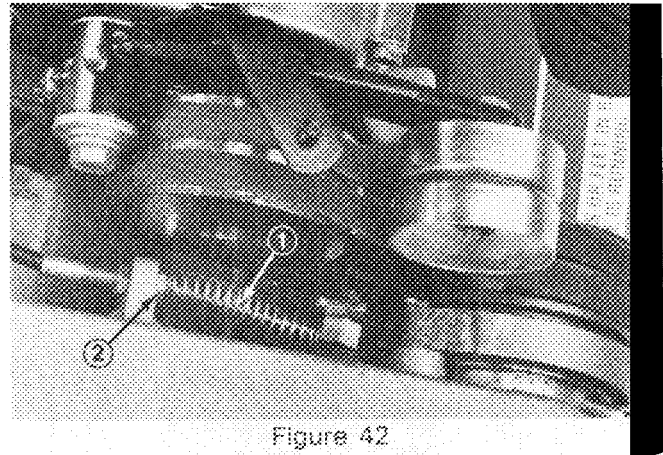

Figure 42
3. To increase cable tension, loosen front cable jam nut and tighten back cable jam nut (Fig. 42) until a force of 3-5 lbs. is required to engage brake. Force to be measured at lever knob. Do not over adjust, so brake band drags.